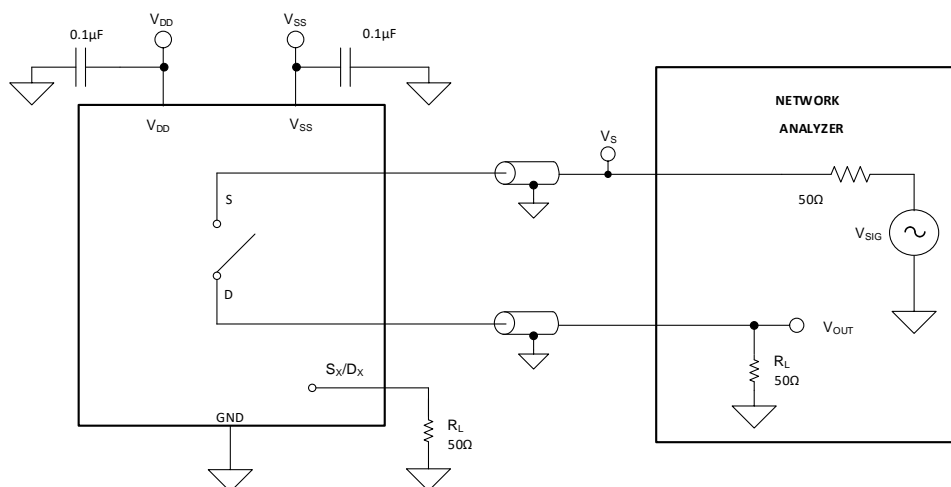

Figure 25. Off Isolation Measurement Setup
Off isolation is defined as the ratio of the signal at the drain pin (D) of the device when a signal is applied to the source pin (Sx) of an off-channel. Figure 25 shows the setup used to measure off isolation. Use the off isolation equation to compute off isolation.